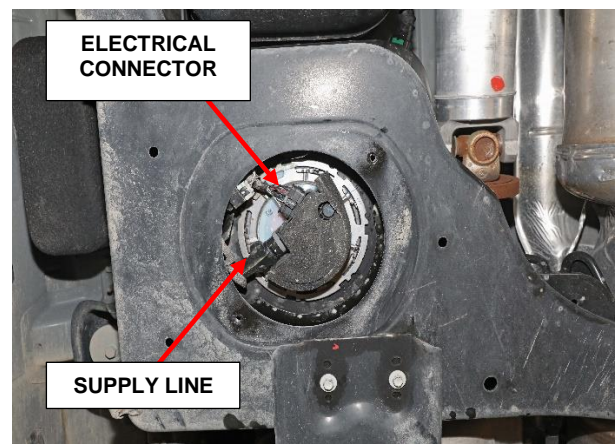

Figure 3 – Electrical Connector and Supply Line
6. Disconnect the DEF supply line from the DEF injector (Figure 3).
7. Disconnect the DEF supply line from the DEF injector (Figure 3).
8. Disconnect DEF pump wire harness connector and tie the wire harness connector away to prevent exposure to the DEF fluid (Figure 3).
16. Connect the DEF supply line to DEF pump (Figure 3).
17. Connect the DEF pump wire harness connector (Figure 3).